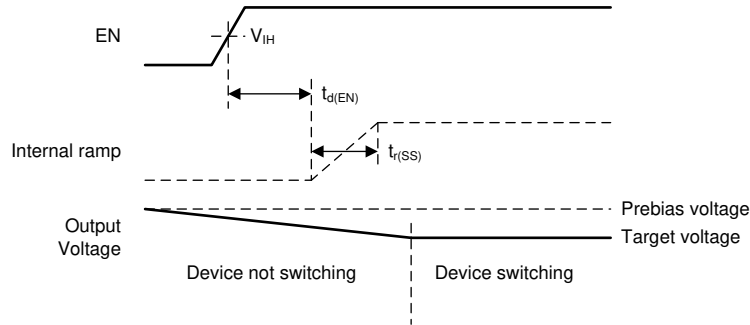

图 6-9. Start-Up Behavior into Prebiased (High) Output
- If the prebias voltage is *higher* than the target voltage, the device does not start to switch until the output voltage has decreased to the target voltage (see 图 6-9). The device cannot actively discharge the output to the target voltage and relies on the load current to discharge the output capacitor and decrease the output voltage to the target value.